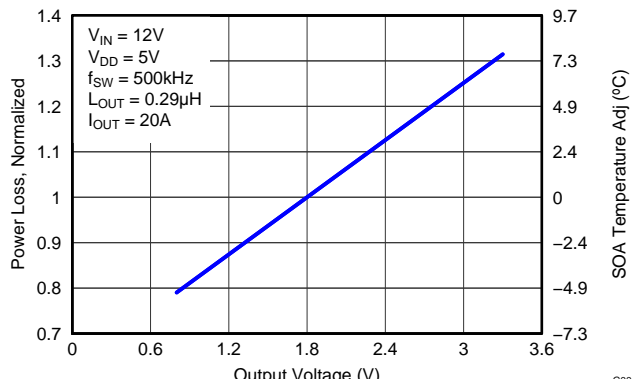

Figure 10. Normalized Power Loss vs Output Voltage
- Normalized Power Loss for output voltage  $\approx$  0.93(Figure 10)
- SOA adjustment for output voltage  $\approx$  1.0°C (Figure 10)